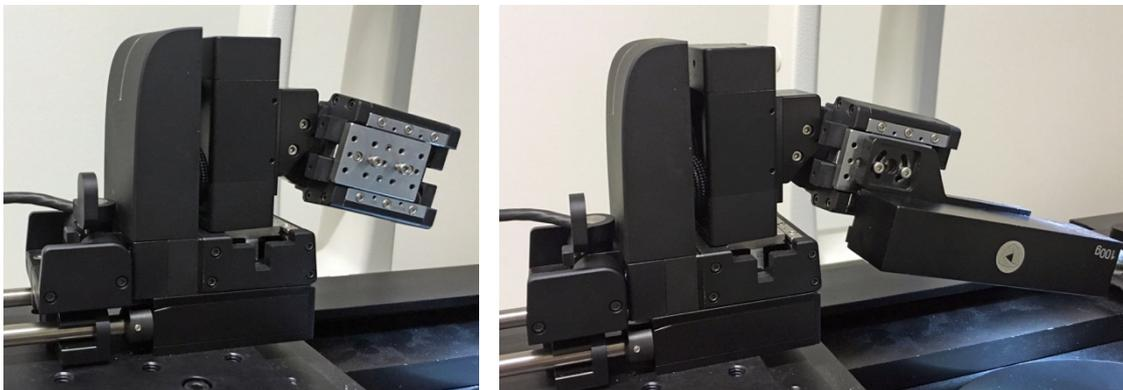

Figure 4. Attaching head-stage to manipulator
1. Fig. 4, shows screws attached to threads that should be used to adapters on x-axis.